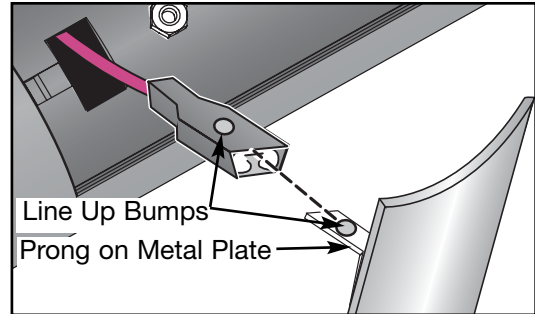

Figure 31
- B. Locate the small bump on the metal contact prong and on the connectors. See Figure 31.
- C. Connect the each cable to a metal prong with the bumps lined up. See Figure 31.